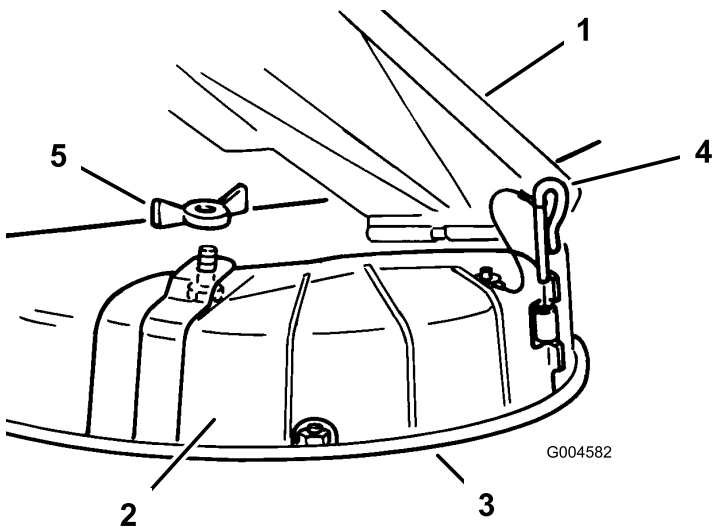

Figure 18
3. Remove the wing nut and bolt securing the cover in place (Figure 18).
3. Lift the grass deflector and place the discharge cover over the opening onto the lower lip of the mower and slide it into the front hinge (Figure 18).
4. Slide the hinge pin through the hinge (Figure 18).
5. Secure the discharge cover to the mower with the wing nut (Figure 18).
4. Remove the hinge pin securing the cover to the deck (Figure 18).